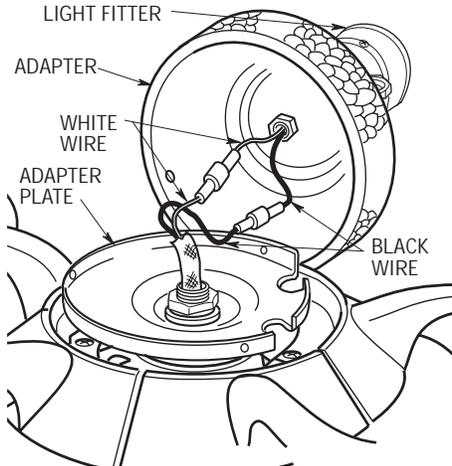

Figure 16
- 8. Connect the white wire from the light fitter to the white wire from the motor (Figure 16). Connect the black wire from the light fitter to the black wire from the motor. Make sure connectors are fully engaged.